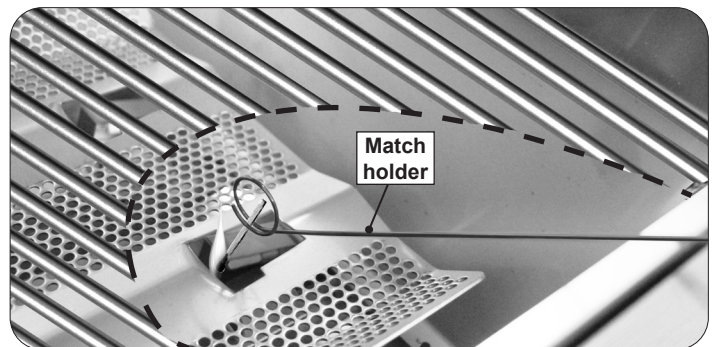

Fig. 31-2 - Manual lighting
2. Insert either a burning long-barrel butane lighter or a burning long-stem match through the cooking grid opening to the top of the burner (Fig. 31-2).
4. If the burner does not light within five (5) seconds of turning the control knob, **immediately depress the knob and turn the valve to OFF**. **WAIT FIVE (5) MINUTES** before repeating steps 2 through 4 of the MANUAL LIGHTING instructions.